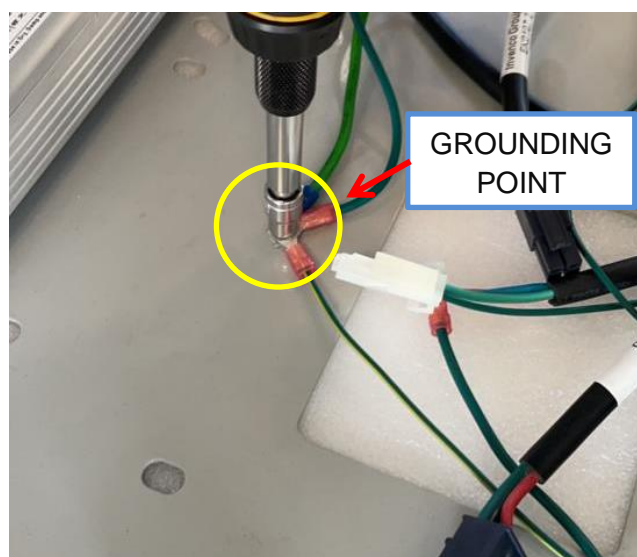

Fig 2.8f – Connect grounding cable to the provided position.
- e) Connect the grounding cable to the position provided in the main case and lock the cable by using M3 KEP Nut (MN0039). (Fig 2.8f)